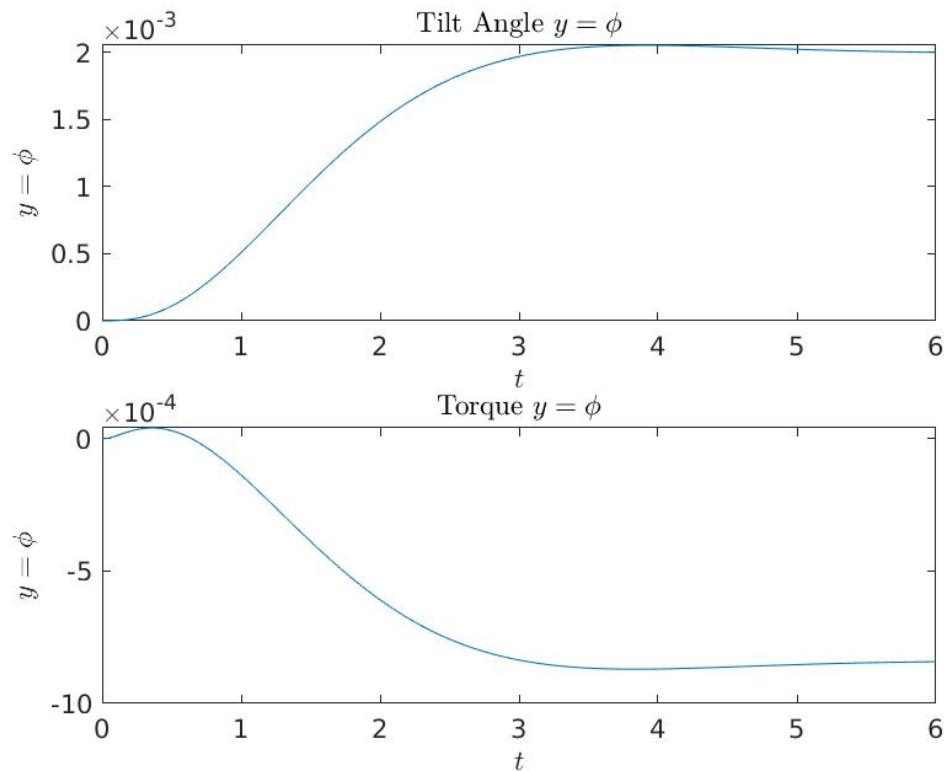
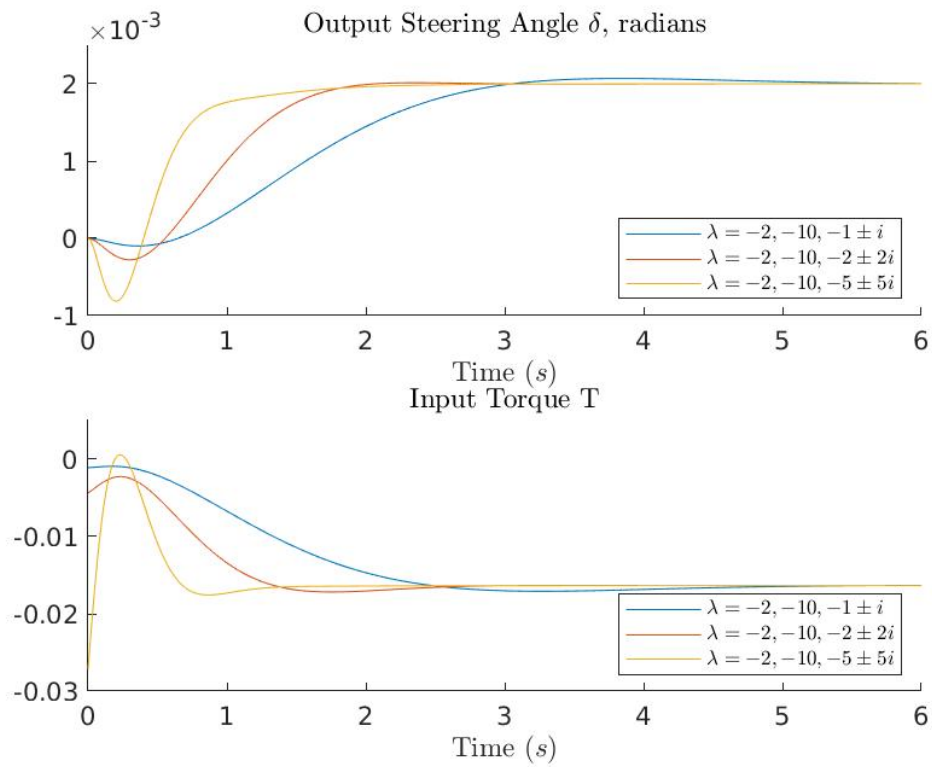

Figure 1: Steering Angle and Input Torque with step function input using observer feedback
Figure 2: Steering Angle and Input Torque with step function input with no observer feedback. Only consider the blue line.
- (c) See MATLAB code for simulation. Figure 1 shows the steering angle and torque input with this observer. Compare this to Figure 2, which shows the same values without the observer. The output seems to be very similar, as expected. The observer feedback does a good job of replicating the system response if the true state is known.